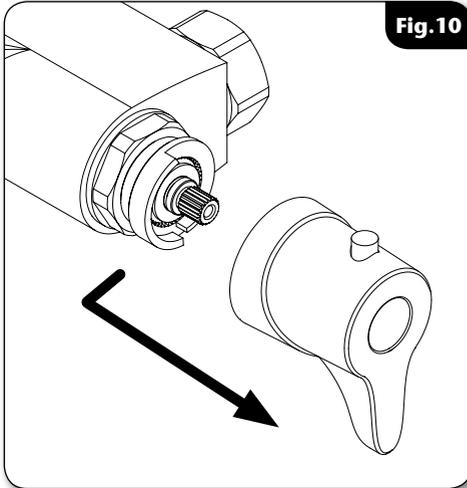

Fig. 10
- Remove the end trim from the temperature control to allow access to the retaining screw. Undo the retaining screw and pull the temperature control off (**fig.10**).